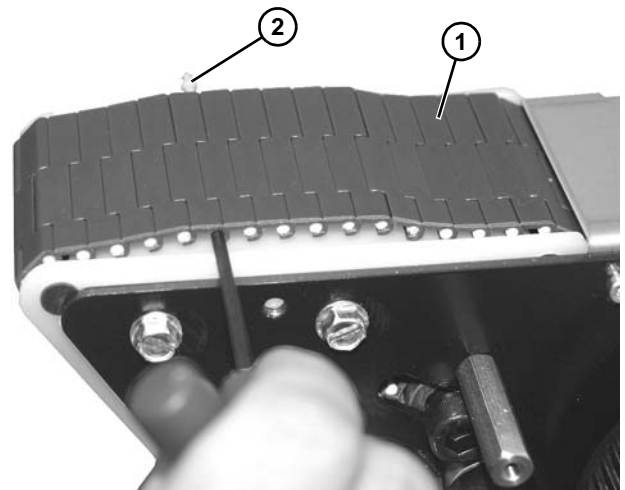

Figure 164
7. Lift slightly on belt (**Figure 164, item 1**) and push pin (**Figure 164, item 2**) out of belt.